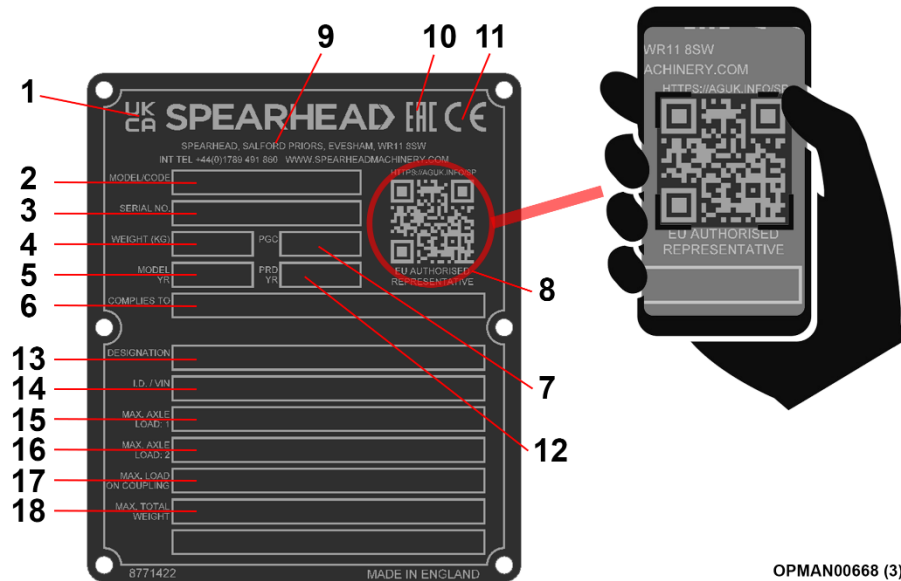

Figure 1.6 – Serial Plate
Each machine is equipped with a serial plate; see Figure 1.6 that includes the following data in this order:
By utilising a smart phone and scanning the Authorised Representative QR scan code found on the right-hand side of the serial plate (ref 8, Figure 1.6) using a suitable QR scanning App, you can find details for Spearhead Machinery authorised representatives for its various territories.